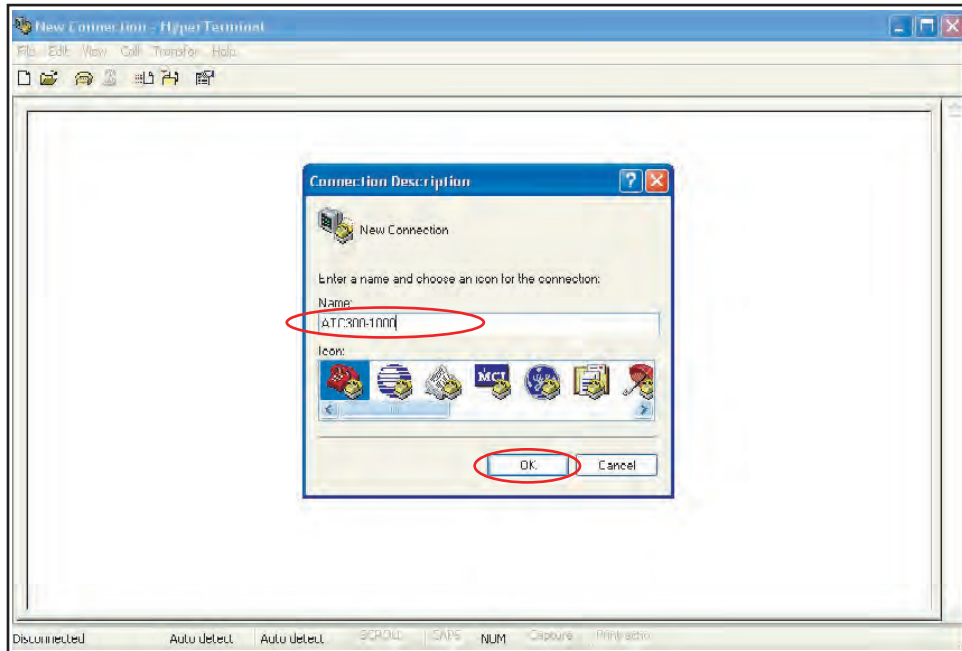

Figure 5-3. Using The New Connection Window.
4. A **New Connection** window will open. Enter a name for the connection and choose an icon in the **Connection Description** window (Figure 5-3).
5. Click **OK** (Figure 5-3).
10. Press **Enter** key. If dollar sign appears, you have established a connection (Figure 5-3). Note: ATC300 version 2.32 and later require a root password for controller access. Contact customer support to obtain this password.